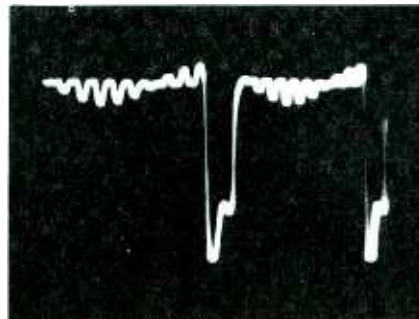

Fig. 8. G-Y signal, tenth bar maximum.
4. Connect the scope to the green CRT control grid. The overall amplitude of this signal will be lower than that obtained at the red and blue grids; therefore, the waveform illustrated in Fig. 8 was taken at a higher vertical gain scope setting. The first and seventh bars should correspond to zero reference, with the tenth bar indicating a maximum positive amplitude. Remember, all of the above checks should be made with the tint control at the center of its range.